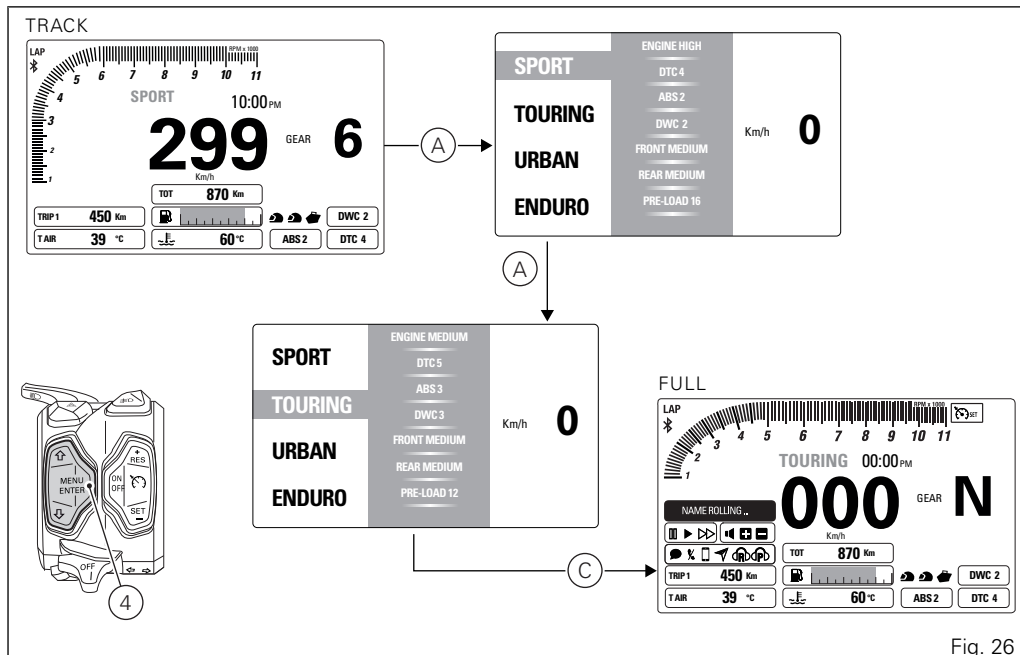

Fig. 26
Once the desired riding mode (A, Fig. 26) is highlighted, confirm the selection by holding down the CONFIRM MENU button (4) for 2 seconds: the new riding mode selection is stored and the standard screen (C, Fig. 26) is displayed for the selected riding mode.